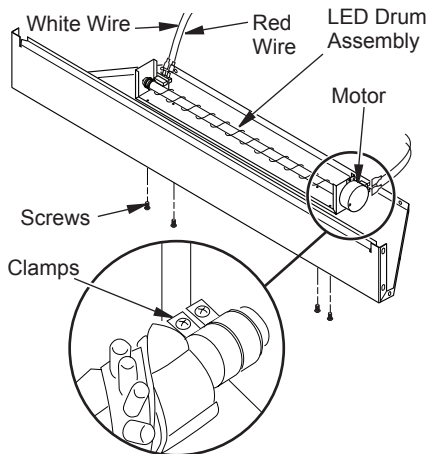

Figure 19 - Flame Generation LED Drum Assembly
8. If motor on assembly fails, loosen clamps (see Figure 19). Remove screws from motor. Hold universal joint while removing motor and discard.